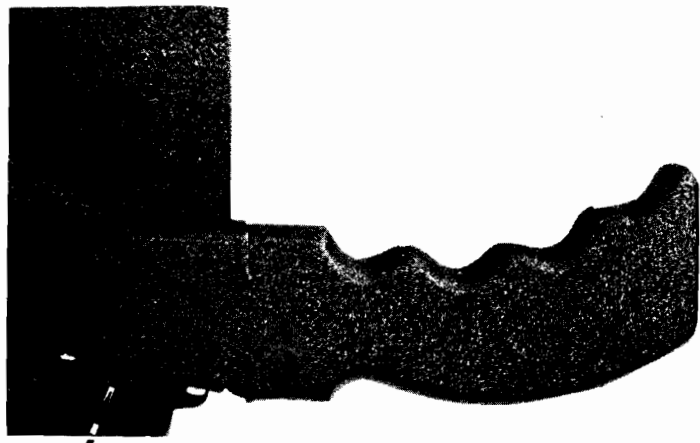

FIGURE 4
Front Handle: Optional (See Figures 4 & 5)
- A. Main Camera Head, including film mechanism plate, magazine drive belt (2), magazine well cover plate and filter holder (2).
- a) fixed handle with thumb switch. (See Figure 4)